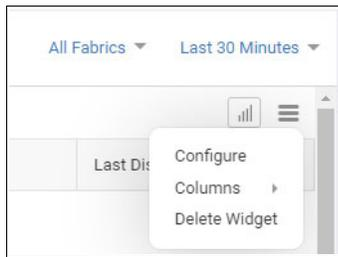

Figure 5-136 Customizing widgets
7. Customize the widgets (Figure 5-136).